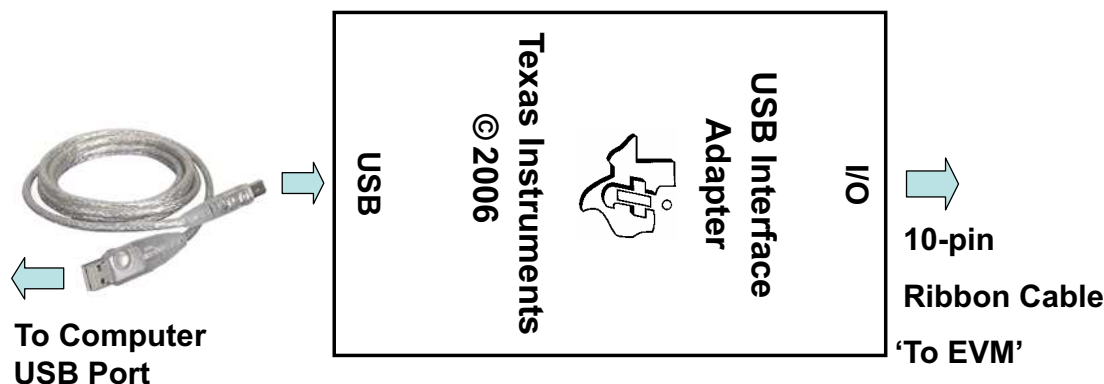

Figure 1. Connections of the HPA172 Kit
6. Connect the HPA172 USB interface adapter to the computer with a USB mini-cable and to J3 with the 10-pin ribbon cable. The connections are shown in Figure 1.